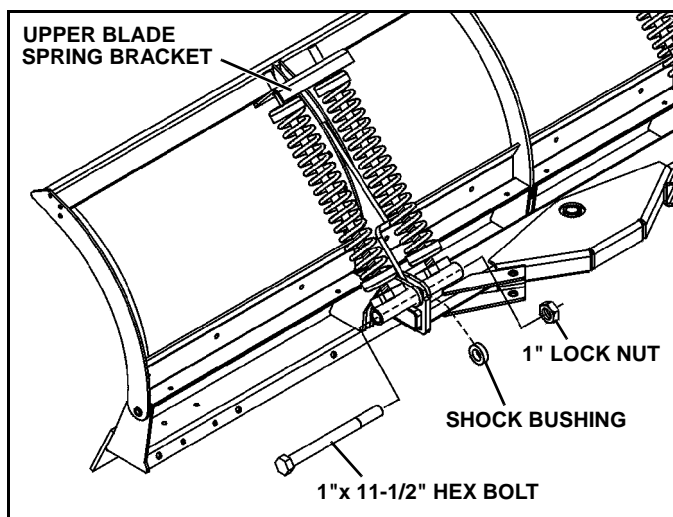

Figure 1-11
7. Fit the trip spring assemblies to the blade (See Figure 1-11):